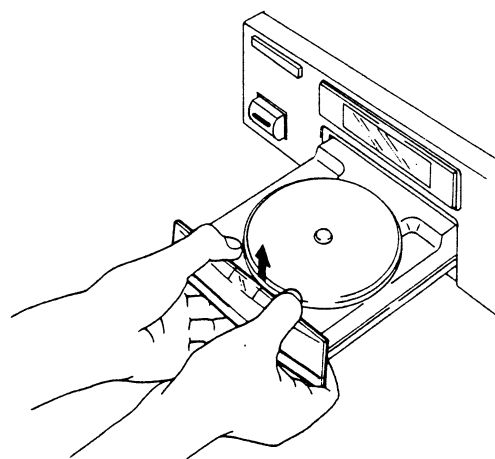

Fig. 1
- 1 Use nipper or other tool to cut the three sections marked (A) figure 1. Then remove the spacer.
Hold the tray panel with your hands as the figure shown right, and grasp the tray with your thumbs and then lift the tray name plate up while pulling it forward you with the other fingers. (Figs. 1 and 2)